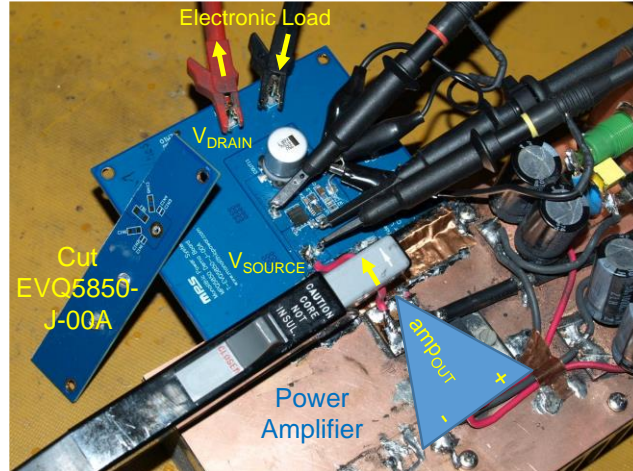

Figure 11: Power Amplifier Provides AC Rectification at Higher Frequencies without a Harness
The oscilloscope screenshots in Figure 9 on page 11 and Figure 10 above are measured with a power amplifier (see Figure 11 on page 13). This power amplifier drives the input capacitance (C_{IN}) of the evaluation board without the inductance of a damping harness. C_{IN} can be calculated with Equation (5):
Figure 11 shows a power amplifier used for the tests shown in Figure 9 and Figure 10.